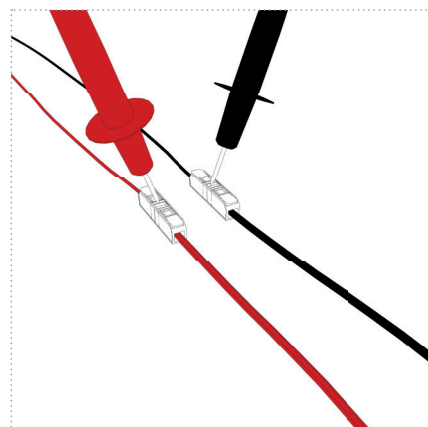

Figure 24
- Reinsert/turn on the fuse for the UV unit's circuit and check for the correct mains voltage at the test openings of the connection terminals (Figure 24).